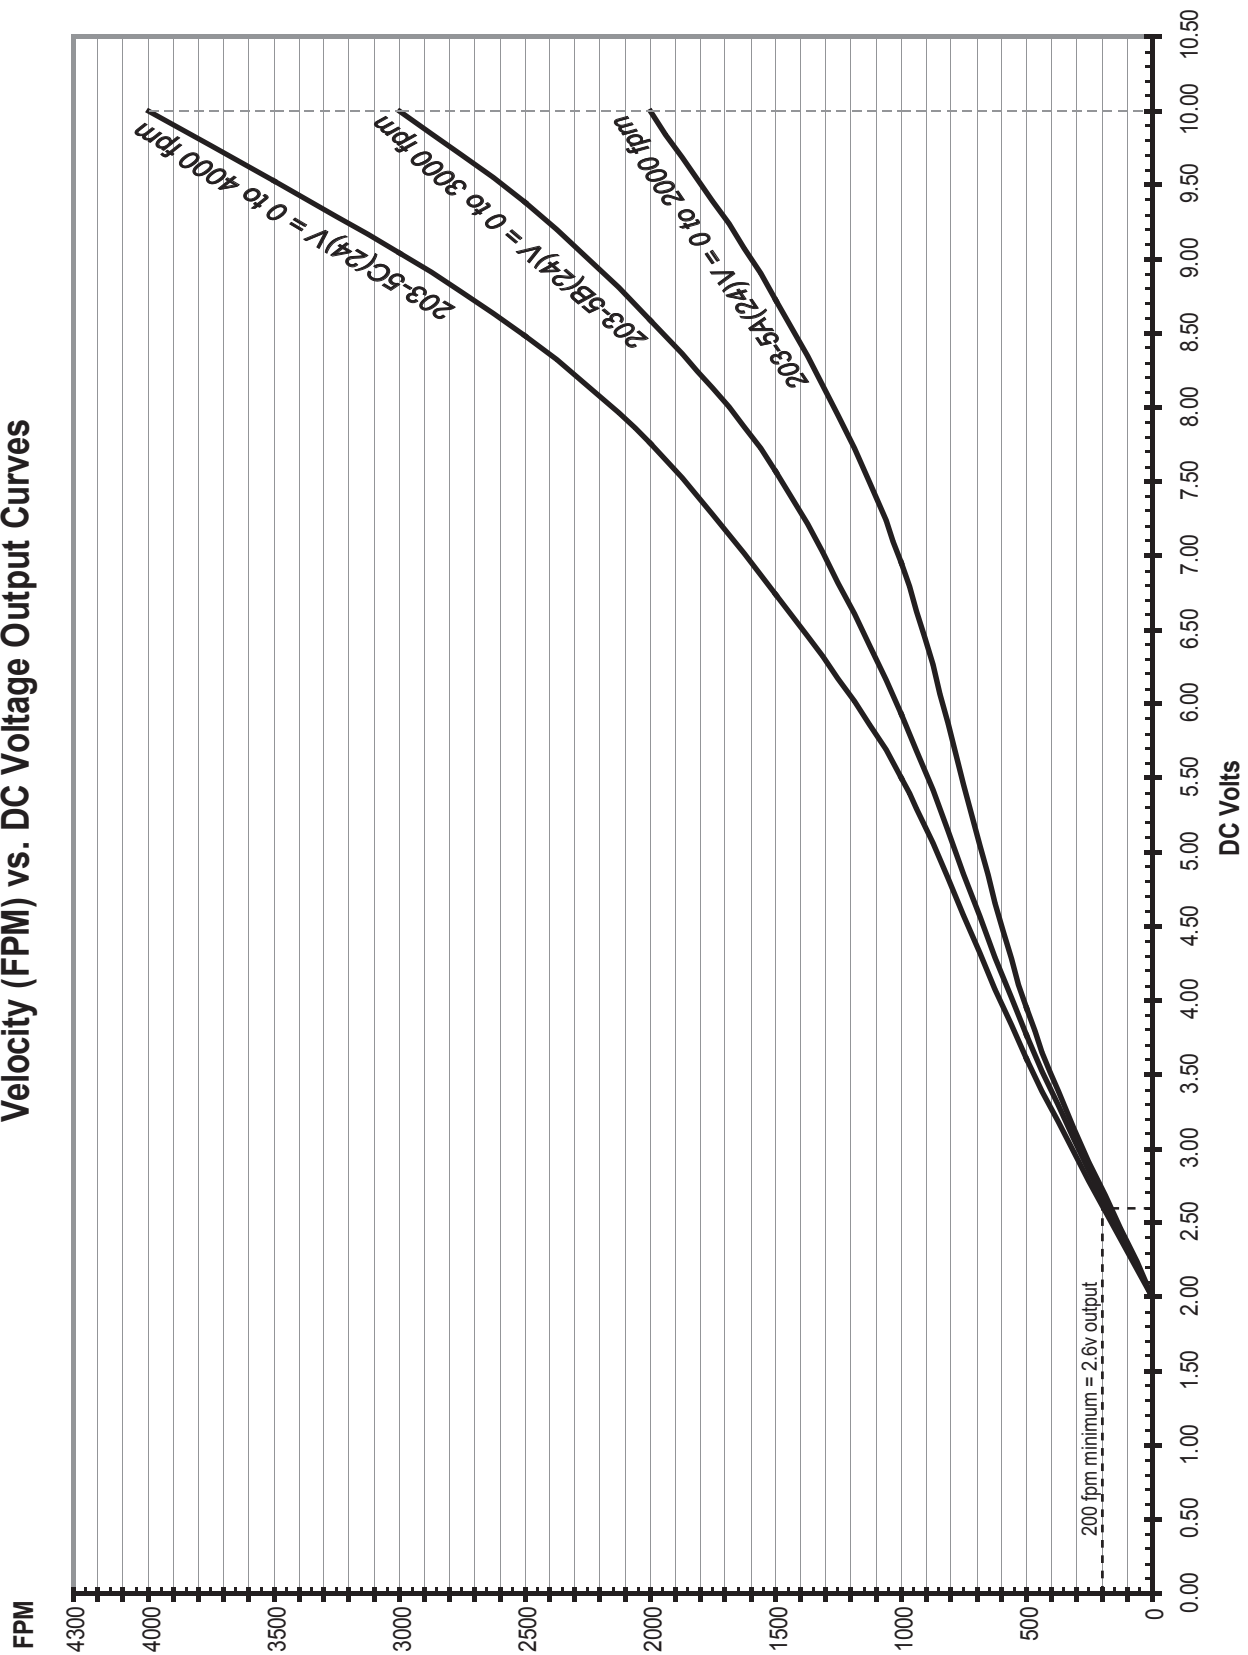

Figure 5 - 203-5 Series Output Response Curves
6. Verify operational flow (fpm) is not below limits as per the graph of Velocity vs DC output Voltage as shown in Figure 5.